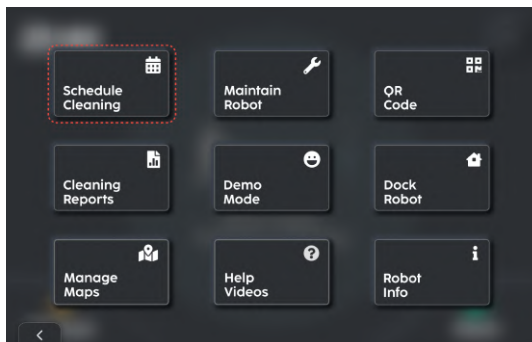

FIGURE 6-26
2. Select the 'Schedule Cleaning' (**Fig. 6-26**).